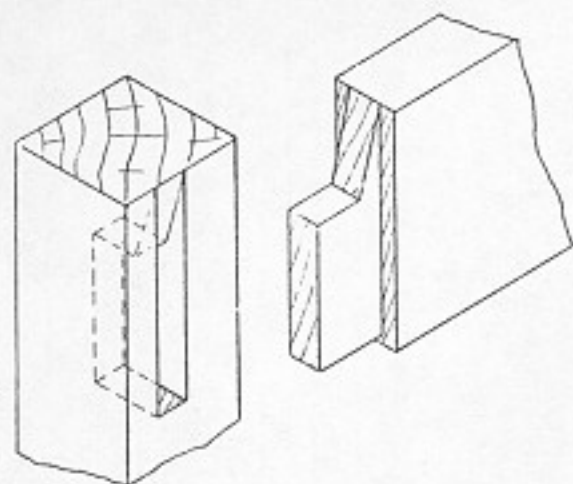

Fig. 257. Table haunching.
4. A modified haunched joint is used in table construction and is called table or taper haunching. In this joint the projection on the upper part of the tenon is tapered (Fig. 257).